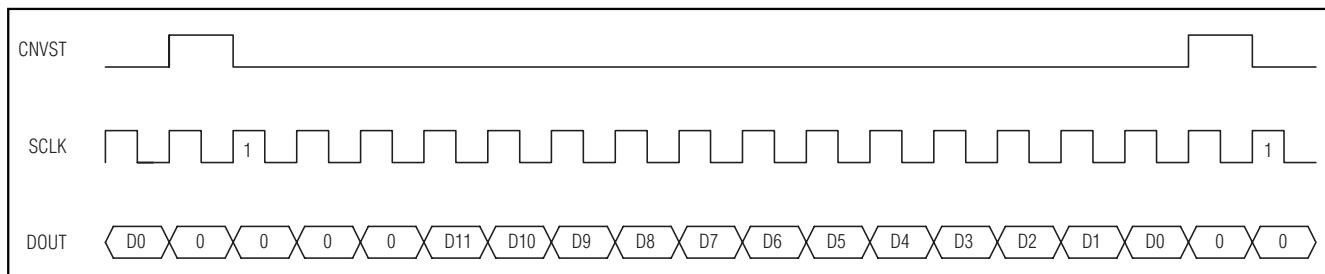
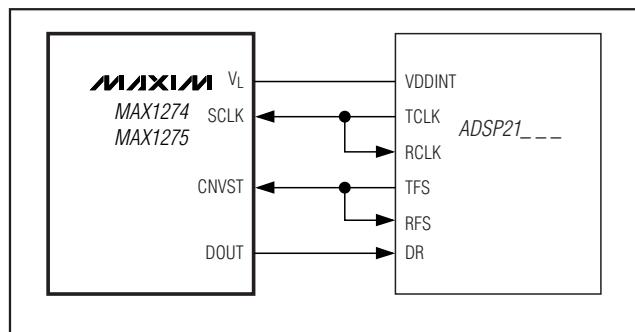

Figure 17. DSP Interface—Continuous Conversion
Figure 19. Interfacing to the ADSP21_--
The MAX1274/MAX1275 can also be connected to the TMS320C54_ by using the data transmit (DX) pin to drive CNVST and the CLKX generated internally to drive SCLK. A pullup resistor is required on the CNVST signal to keep it high when DX goes high impedance and 0001hex should be written to the DXR continuously for continuous conversions. The power-down modes may be entered by writing 00FFhex to the DXR (see Figures 17 and 18).
The MAX1274/MAX1275 can be directly connected to the ADSP21_ family of DSPs from Analog Devices, Inc. Figure 19 shows the direct connection of the MAX1274/MAX1275 to the ADSP21_. There are two modes of operation that can be programmed to interface with the MAX1274/MAX1275. For continuous conversions, idle CNVST low and pulse it high for one clock cycle during the LSB of the previous transmitted word. The ADSP21_ STCTL and SRCTL registers should be configured for early framing (LAFR = 0) and for an active-high frame (LTFS = 0, LRFS = 0) signal. In this mode, the data-independent frame-sync bit (DITFS = 1) can be selected to eliminate the need for writing to the transmit-data register more than once. For single conversions, idle CNVST high and pulse it low for the entire conversion. The ADSP21_ STCTL and SRCTL registers should be configured for late framing (LAFR = 1) and for an active-low frame (LTFS = 1, LRFS = 1) signal. This is also the best way to enter the power-down modes by setting the word length to 8 bits (SLEN = 1001). Connect the V_L pin to the ADSP21_ supply voltage when the MAX1274/MAX1275 are operating with a supply voltage higher than the DSP supply voltage (see Figures 17 and 18).